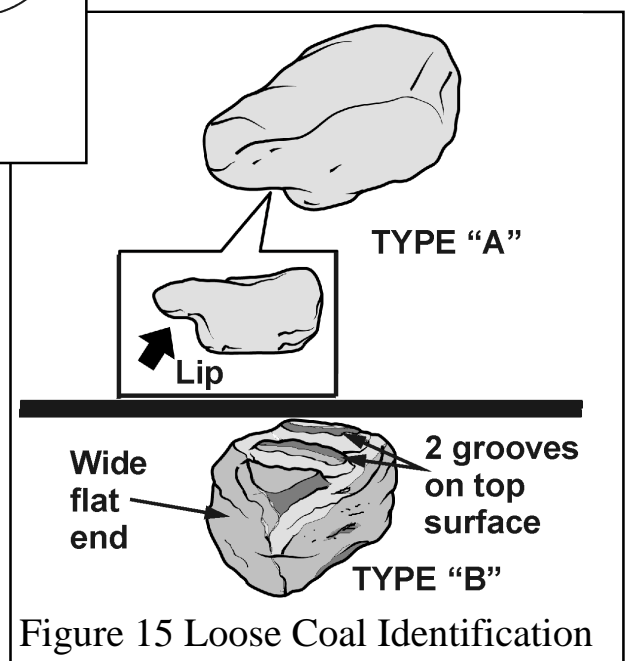

Figure 15 Loose Coal Identification
5. There are two types of loose coals. Type "A" coals have a prominent lip. There are three coals of this type. Type "B" are squarer than type "A" and have two grooves on their top surface. The coals are shown in figure 15. Identify these coals before attempting to fit them.